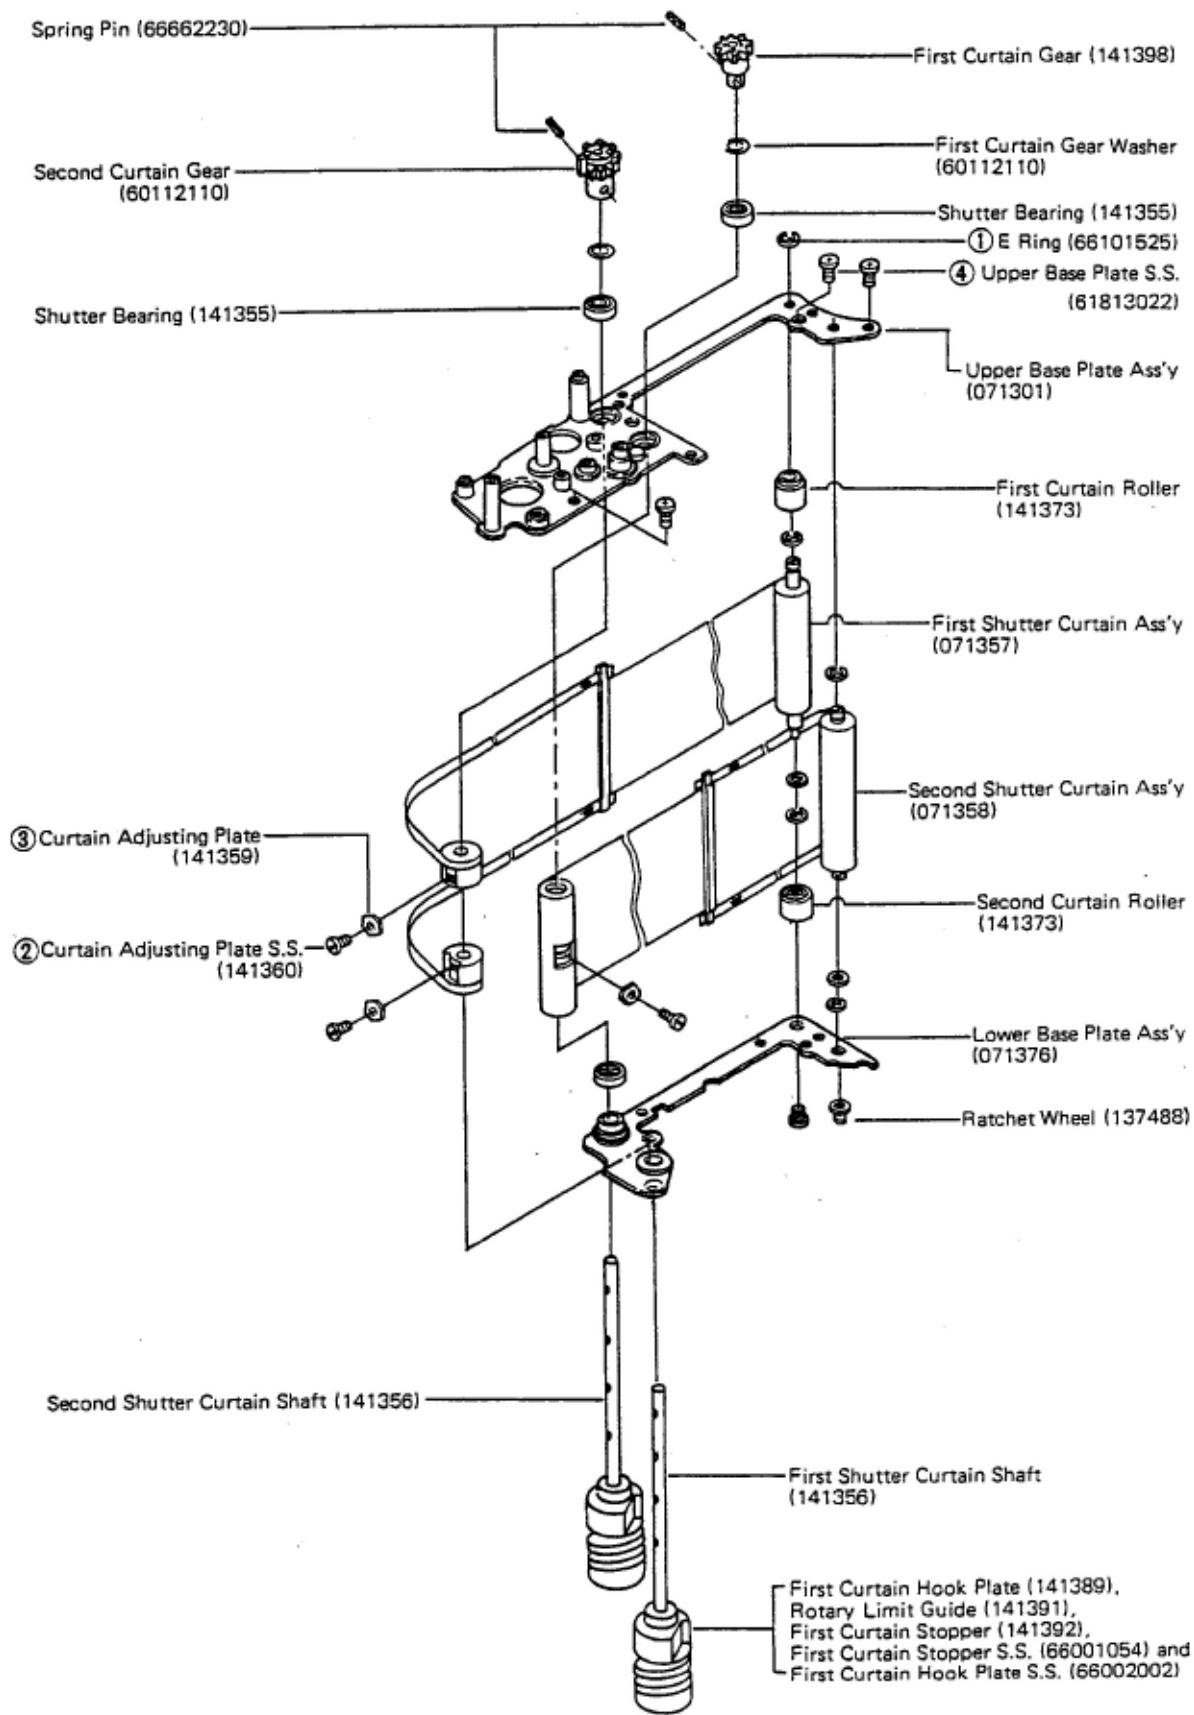
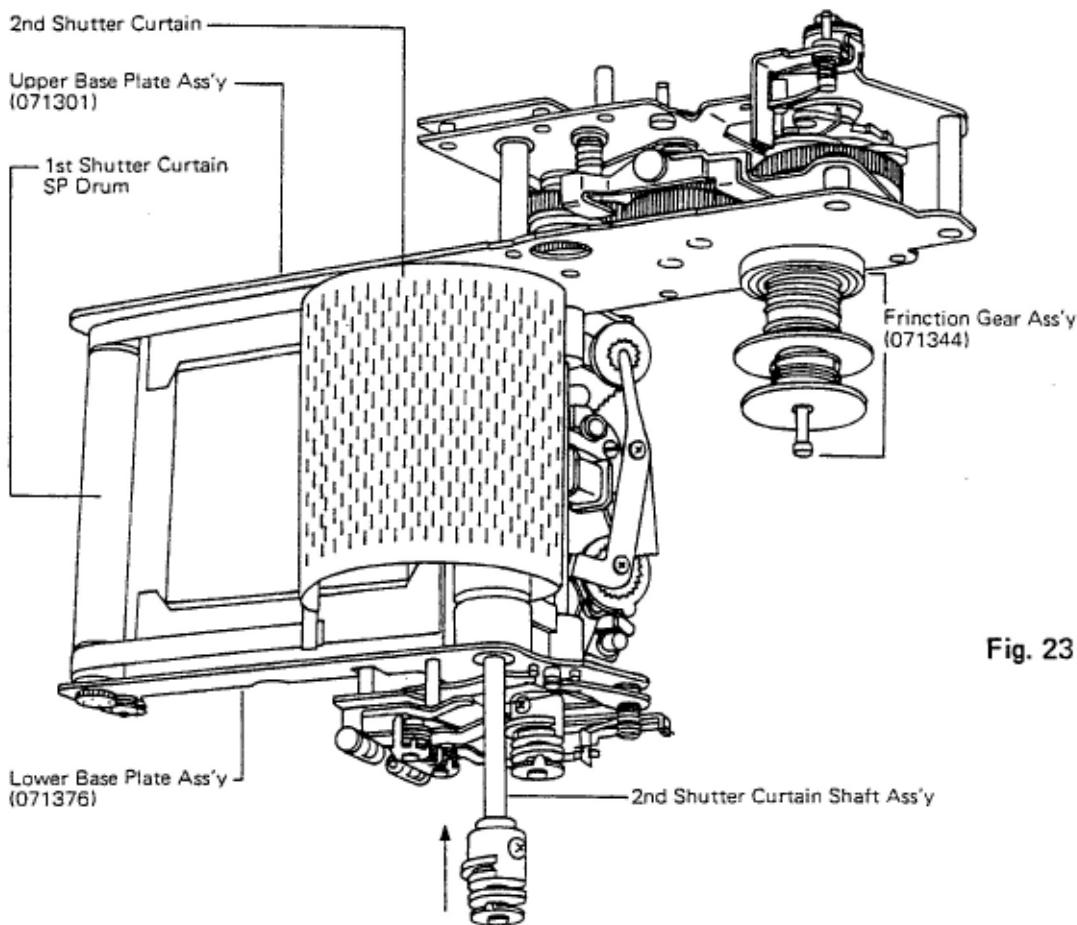
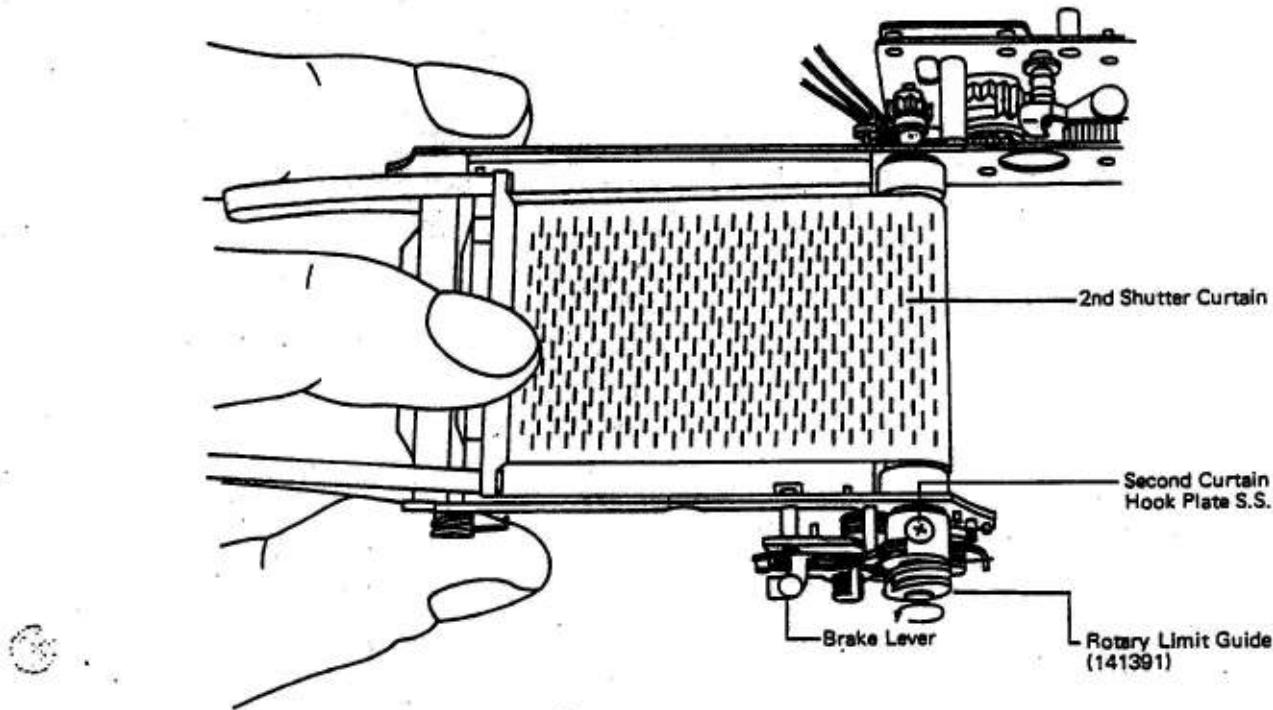

Fig. 22
Fig. 23
Fig. 26
- (1) Disassembling of 1st & 2nd shutter curtain ass'y from the Shutter Mech. Ass'y (This operation can be performed after completion of "**1. DISASSEMBLING OF THE EXTERIOR PARTS**" on page 2. "**2. DISASSEMBLING OF THE MOUNT BASE ASS'Y**" on page 4 and "**4. DISASSEMBLING OF SHUTTER MECH. ASS'Y FROM THE CAMERA BODY**" on page 9.)
- a) Remove the Spring Pin (66662230x2) from the First Curtain Gear (141398) and Second Curtain Gear (141399). (fig. 22)
- c) Remove the respective parts ①~③ shown in (fig. 22) in numerical order. (To remove ② and ③ from the 2nd shutter curtain shaft (141356) rotate the Rotary Limit Guide (141391) about 90° counterclockwise.)
- d) Remove ④ Upper Base Plate S.S. (61813022x1). (fig. 22)
(2) Reassembling of the 2nd Shutter Curtain Ass'y to the Shutter Mech. Ass'y.
- a) Fix the 2nd Shutter Curtain SP Drum between Upper Base Plate Ass'y (071301) and Lower Base Plate Ass'y (071376) properly. (fig. 22) or (fig. 23)
(At this stage, the Second Curtain Gear should not be fixed to the 2nd Shutter Curtain Shaft with the Spring Pin yet.) (fig. 23)
- d) Rotate the 2nd Shutter Curtain Shaft Ass'y counterclockwise until it stops and engage the Brake Lever to the ditch of Rotary Limit Guide (141391). (fig. 26)
- f) Place and hold the 2nd shutter curtain as shown in (fig. 26) and fix the 2nd Shutter Curtain Drum to the 2nd Shutter Curtain Shaft with a Curtain Adjusting Plate (141359) and Curtain Adjusting Plate S.S. (141360) (fig. 22) or (fig. 23)
- g) Fix the Ratchet Wheel and turn it 2 turns. (fig. 22)
**(3) Reassembling of the 1st Shutter Curtain Ass'y to the Shutter Mech. Ass'y.**
- a) Cock the shutter by turning the Friction Gear Ass'y (071344) clockwise. (fig. 23)
- The 2nd shutter curtain position adjustment can be performed by changing the direction of Curtain Adjusting Plate (141359). (fig. 22)
- The 1st Shutter Curtain position adjustment can be performed by changing the direction of 2 x Curtain Adjusting Plates (2x141359). (fig. 22)